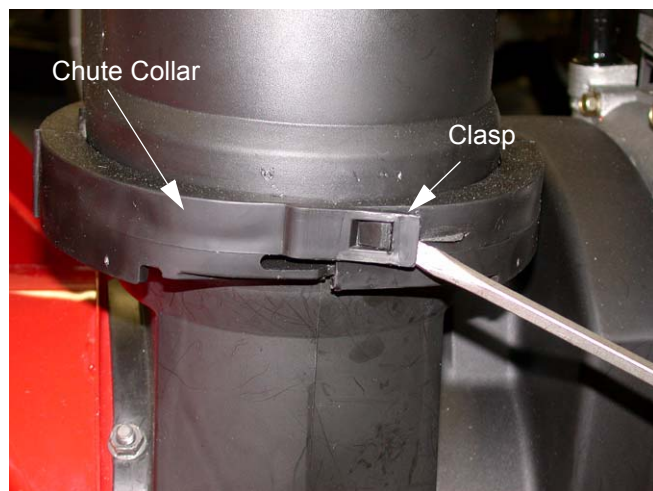

Figure 17.2
- 17.2. Using a screwdriver, pry the clasp on the chute assembly collar to release the clasp. See Figure 17.2.